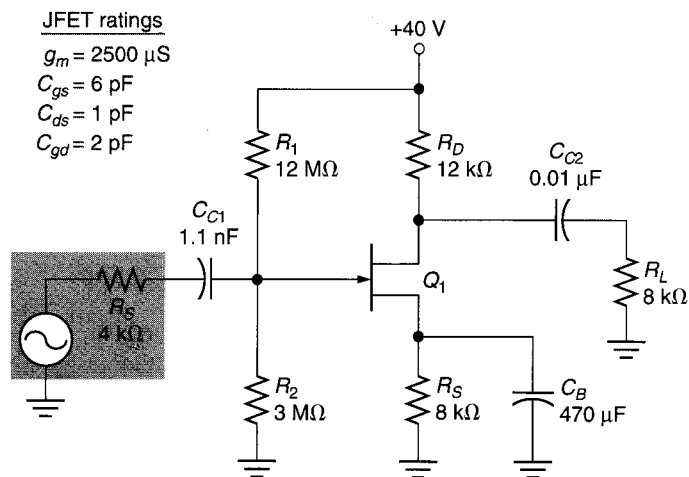

FIGURE 14.37
39. Calculate the overall values of  $f_{C1}$  and  $f_{C2}$  for the amplifier in Figure 14.37.